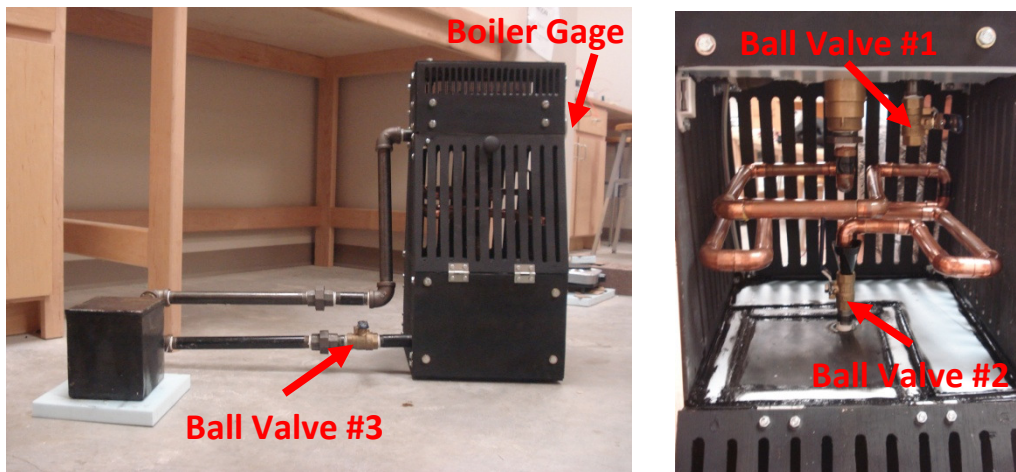

Figure 7: Ball valve and boiler gage location
2. Ensure the ball valve #1 is open, ball valve #2 is open and ball valve #3 is closed. See Figure 7 for location of the ball valves. The ball valves are open when the handle is aligned (same direction) with the pipe and closed when the handle is perpendicular (at a 90° angle) to the pipe.